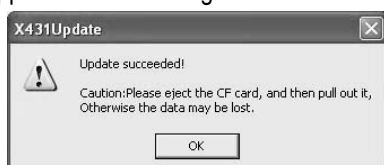

Figure 3-27
6. When it is finished updating, a pop-up window will appear as shown in figure 3-27.